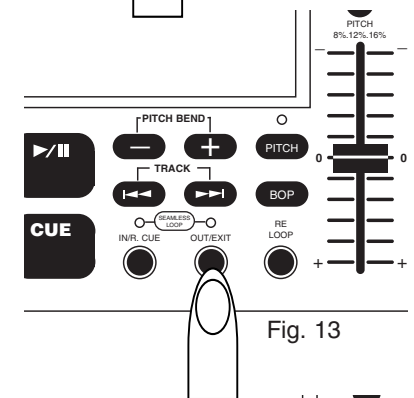

Fig. 13
- 3) Press **OUT/EXIT BUTTON (14)** to set your desired ending point for your SEAMLESS LOOP (Fig 13). The **IN/R. CUE (12)** and **OUT/EXIT (14)** LEDs will begin to flash indicating SEAMLESS LOOP mode has been activated.
To exit a SEAMLESS LOOP, press the **OUT/EXIT BUTTON (14)**. The **IN/R CUE (12)** and **OUT/EXIT (14)** LEDs will remain on, but will stop flashing. Music playback will resume normal play (Fig. 13). The **IN/R CUE (12)** and **OUT/EXIT (14)** LEDs will remain on to remind you that a loop is stored in memory.
- 1) Press the **OUT/EXIT BUTTON (14)** to return to normal play from the the loops cue point. (Fig. 13). This will disengage the SEAMLESS LOOP mode and allows you to edit the loops ending point.
- 2) Press the **OUT/EXIT BUTTON (14)** again when you reach your new ending point (Fig. 13).
- 3) **FOR A SHORTER LOOP:** Press the **OUT/EXIT BUTTON (14)** at sooner point in the track.
- 4) **FOR LONGER LOOP:** Press the **OUT/EXIT BUTTON (14)** at later point in the track.
12. TIME METER DISPLAY (44)/TIME BAR (46)